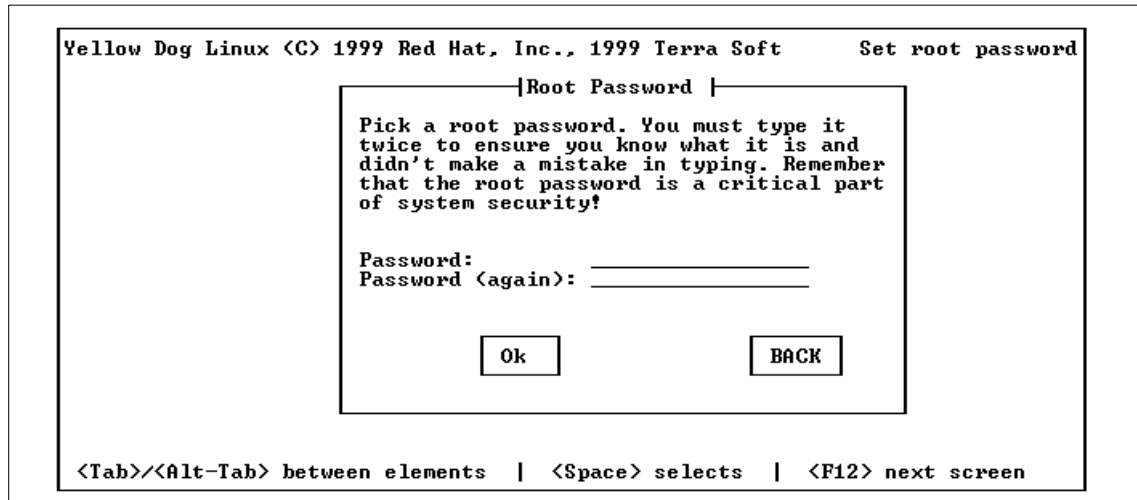

Figure 47. Password Setting
24. Enter and remember the root password (see Figure 47).